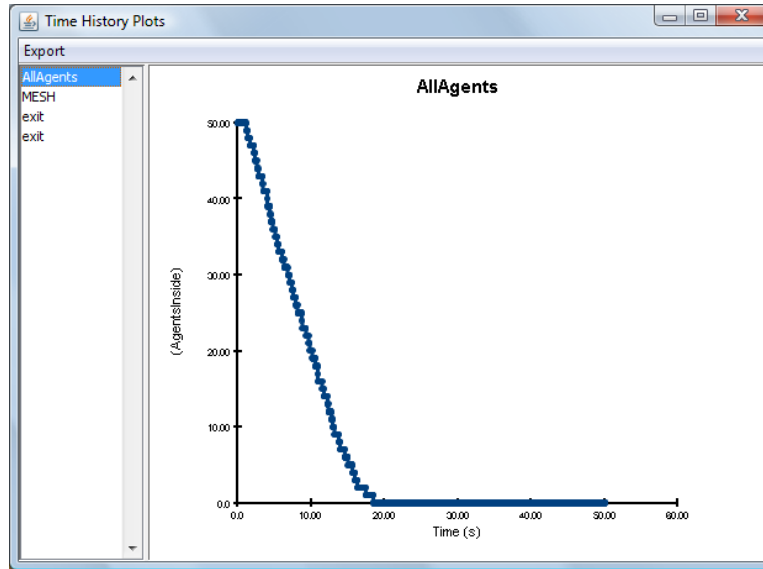

Figure 8.4. Occupants as a function of time
2. A dialog will appear showing a list of 2D result files. Select `evac_evac.csv` and click **Open** to view the occupants in the room as a function of time, Figure 8.4.